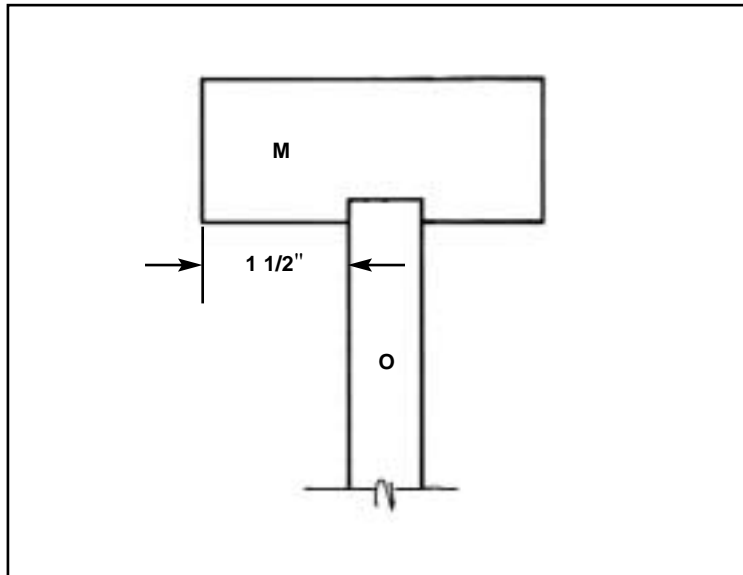

Figure 11
14. Place boards (O) in grooves in board (M). Refer to Figure 11. Space equally, glue and nail.